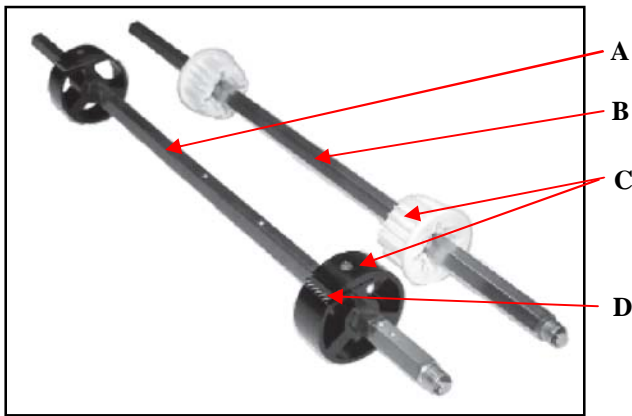

Fig. 5-5. Core Adaptors on the Shafts
A. Supply shaft (Figure 5-5)
B. Take-up shaft (Figure 5-5)
C. Core Adaptors (Figure 5-5)
D. Gripper (Figure 5-5)